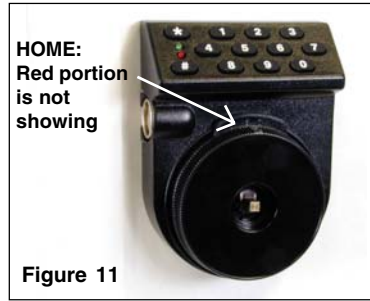

Figure 11
11. Hold the dial and orient the lip of the dial in the upright position so that it will cover the red bar on the front cover once placed onto the spindle. This is referred to as the "HOME" position. (See correct dial position in Figure 11.) Place the dial onto the spindle and seat into the dial bushing. Push gently on the dial so that the gear on the generator seats properly into the gear teeth on the dial.